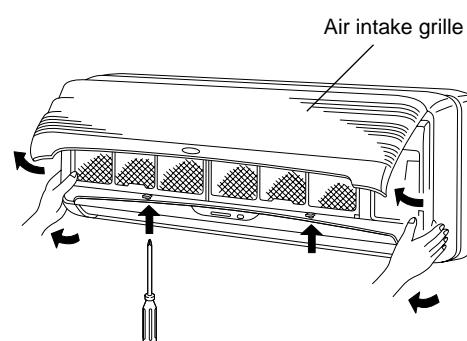

Fig. 14b
- (3) Remove the grille. (Fig. 14b)